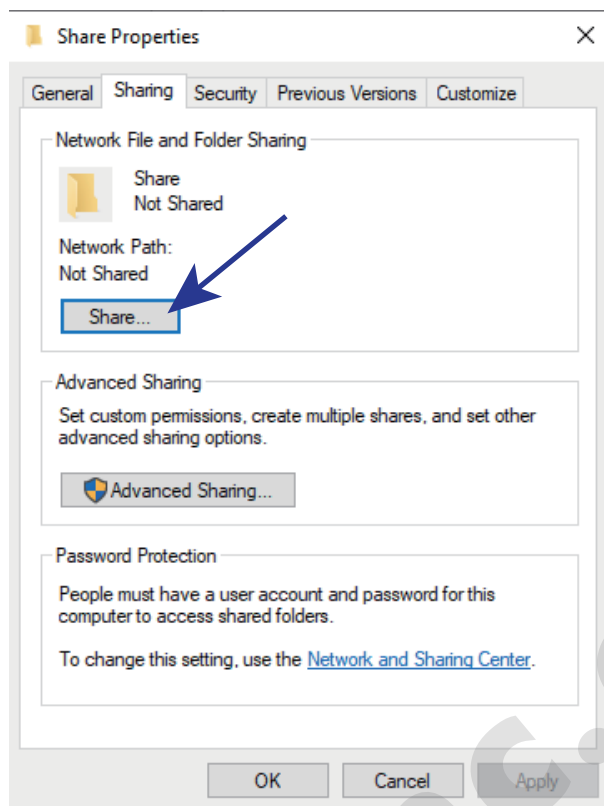

Figure 10
- 1) Right click the folder and click “Properties”, the “Properties” window popup as figure 10 shows;